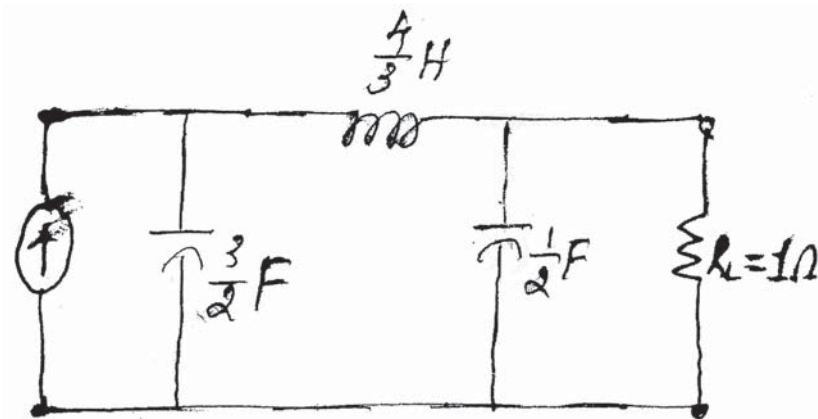

Fig. 6
- b) Normalized third order low pass filter is shown in Fig. 6. Design the corresponding high pass filter with its cutoff frequency  $\omega_c = 10^6$  rad/sec. and the impedance level of  $500\Omega$ . 4